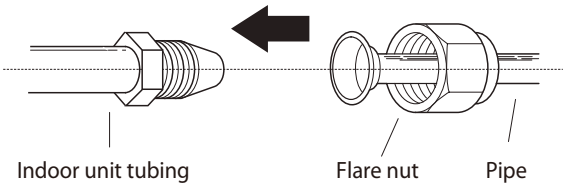

Fig. 5.7
- Align the center of the two pipes that you will connect. See Fig. 5.7 .